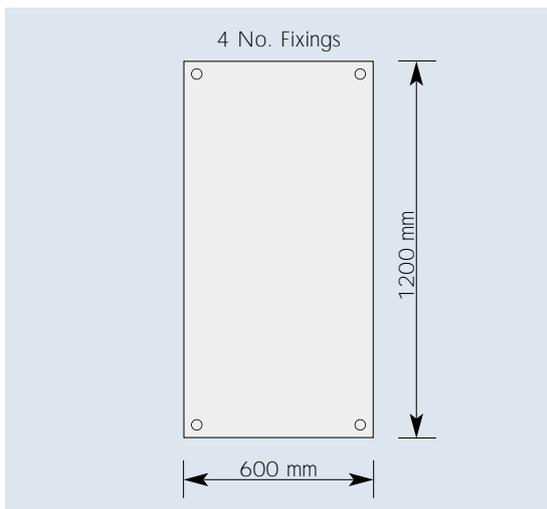

Figure 1 TYPICAL MECHANICAL FIXING PATTERN
On metal decks, **Kingspan Therma**roof TR20 zero ODP should be laid into hot bitumen (max. temperature 240°C) mopped or poured over the vapour control layer. Alternatively the boards can be secured using mechanical fixing systems (see Figure 1). **Kingspan Therma**roof TR20 zero ODP should be laid break-bonded with the long edges at right angles to the trough openings, or alternatively, diagonally across the corrugation line. Whichever system is chosen, care must be taken to ensure that all joints are supported by the deck. The joints should be lightly butted. Taping of the joints is not required.
Concrete decks should be clean, dry, without large projections, steps or gaps, and should be graded to allow correct falls to all rainwater outlets. To ensure an adequate bond between the vapour control layer and the concrete deck, the concrete or screeded surface should be suitably primed in accordance with the specified manufacturer's instructions. The vapour control layer should be fully bonded to the deck and similarly the **Kingspan Therma**roof TR20 zero ODP to the vapour control layer by laying into hot bitumen mopped or poured over the vapour control layer. Alternatively the boards can be secured using mechanical fixing systems (see Figure 1). The boards should be laid break-bonded with all joints lightly butted.
**Kingspan Therma**roof TR20 zero ODP should be fully bedded in hot bitumen over a continuous vapour control layer which has been nailed or bonded to the deck with laps at the side and end sealed with hot bitumen. Alternatively the boards can be secured using mechanical fixing systems (see Figure 1). The joints should be break-bonded and the boards laid at right angles to the edge of the roof or diagonally across the roof. All joints should be lightly butted.
On woodwool slab decks, **Kingspan Therma**roof TR20 zero ODP should be fully bedded in hot bitumen over a continuous vapour control layer. Boards should be laid with their long edges at right angles to the slabs, or preferably diagonally across the roof. Alternatively boards can be secured using specialist mechanical fixing systems (see Figure 1). Board joints should not coincide with those of the slabs. The roof boards should be laid break-bonded, with all joints lightly butted.
The requirement for additional fixings should be assessed in accordance with BS 6399: Part 2: 1997 (Code of practice for wind loads) (see Figure 1).